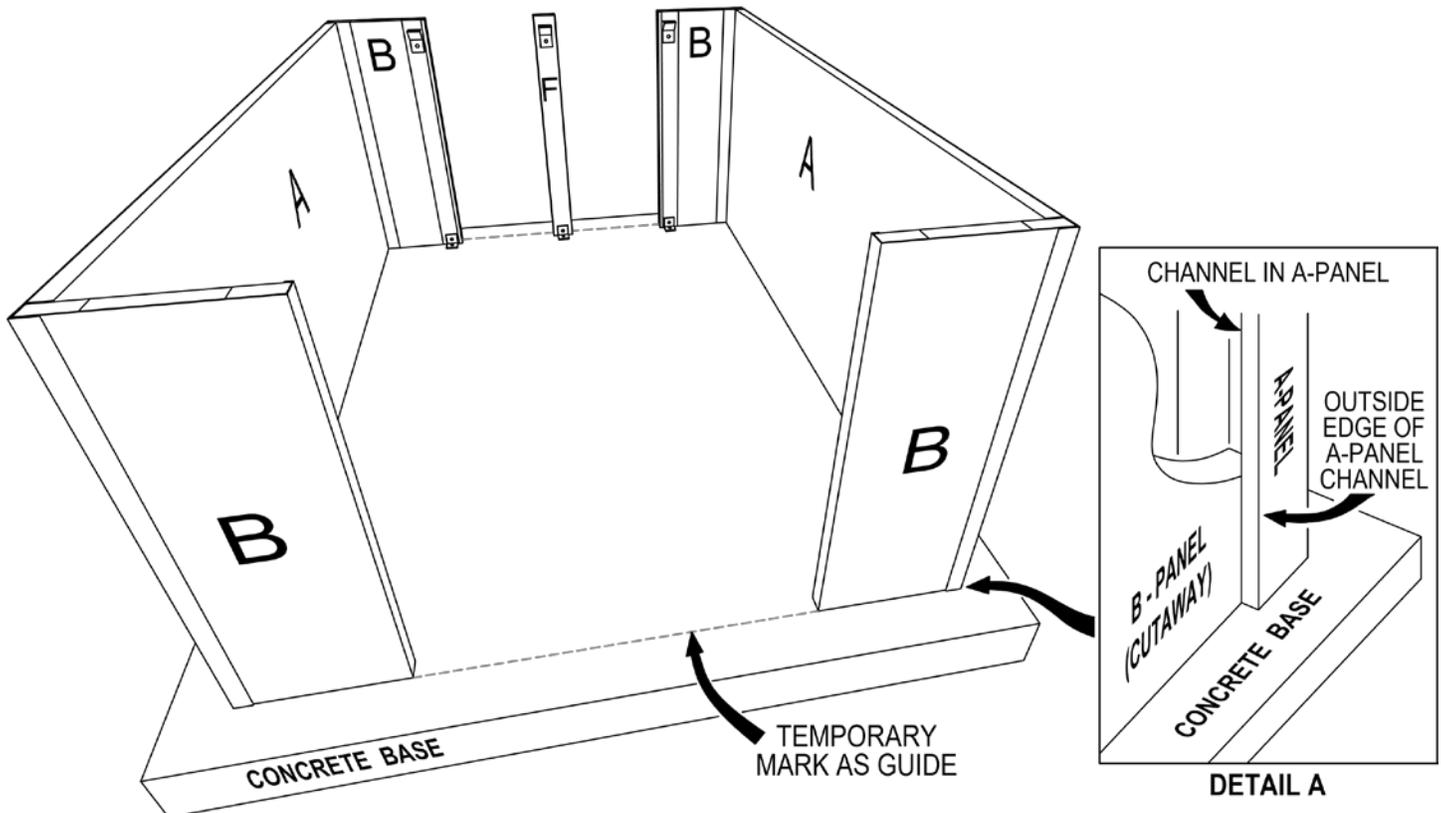

FIG. 1
4. Assemble the "BS-A-BL" (side-end-side) assemblies using hex head screws. (For best results, insert a bead of silicone caulk into the inside bend of the "A" panel corners.) Position both sets of assembled panels on the marked concrete base (Fig 1).